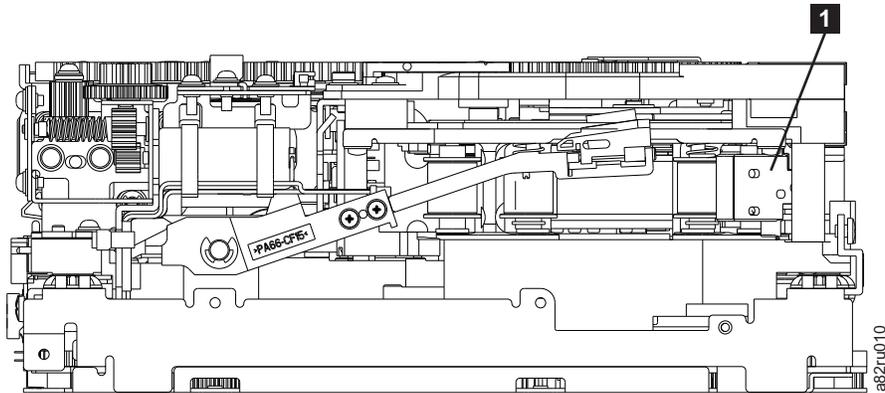

Figure E-15. Leader Block Assembly (LBA)
9. Rotate the threader motor worm gear (**4** in Figure E-14 on page E-15) to turn the threader mechanism gear (**6** in Figure E-14 on page E-15) counterclockwise. This moves the LBA out of the cartridge and past the read/write head. Stop this rotation when the LBA is near the tape guide roller nearest the rear of the drive shown as **1** Figure E-15.